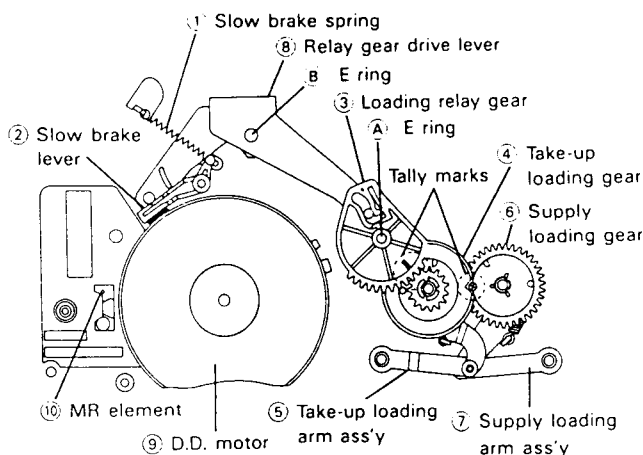

Figure 1-31.
2. In reassembling, match the tally marks on the gears, as shown in Fig. 1-31
1. Place the relay gear drive lever in the unloading state as shown in Fig. 1-31.
2. Set the relay shifter lever ④ to the main chassis; the shifter lever should be adjusted to the reverse guide spring hole in the main chassis. Then place the master cam so that the cut-off part of the boss ⑥ should face the direction of arrow → ⑦.
3. Place the half-loading reciprocating lever ① so that its cam follower comes in the outermost cam groove. Now attach the E ring ④.